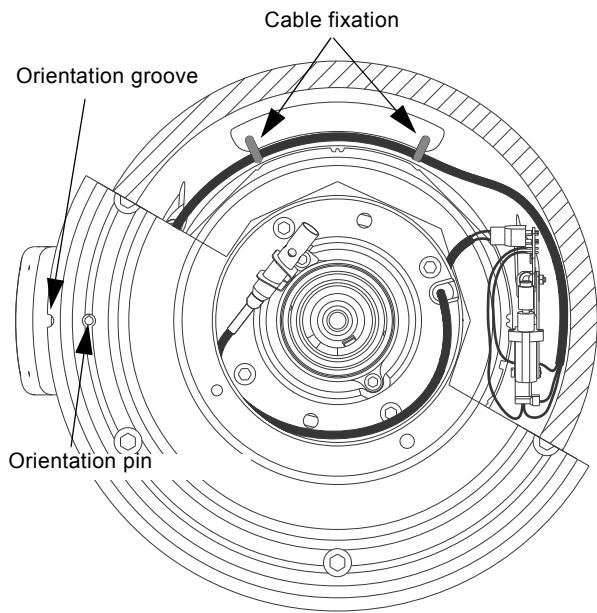
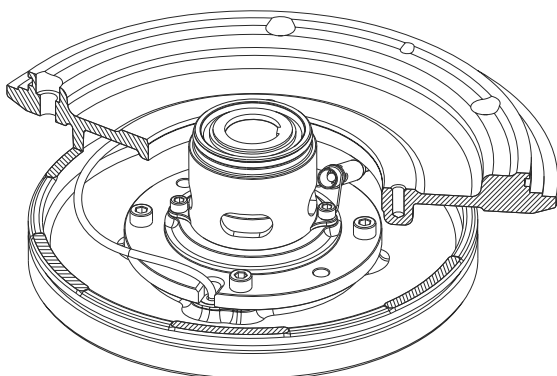

Fig. 16 Orientation markers and fixation of sensor cables
Fig. 17 Position of bearing cover
7. Fix the cables of the sensors to the stator housing (55) with cable clips. See fig. 16.
3. Fix the cable of the moisture switch to the stator housing (55) with cable clips. See fig. 16.
1. Lubricate the O-rings (37a and 37b) with Rocol Sapphire Aqua-Sil and fit the O-ring (37b) on the oil chamber (155) and the O-ring (37a) on the stator housing (55).
2. Fit the corrugated spring (158) in the bottom of stator housing (55).
3. Lubricate the outer ring of the non-drive end bearing (154) with Rocol Sapphire Aqua-Sil.
4. Turn the oil chamber (155) so that the orientation groove in its circumference is next to the orientation pin of the stator housing. See fig. 16.
5. Lower the shaft with rotor (172) together with the oil chamber (155) carefully into the stator housing (55). Take care not to damage the stator windings. At the same time, pull the cable of the water-in-oil sensor through the hole in the oil chamber so that the cable is not pinched.
6. Fit the screws (188) in the oil chamber and cross-tighten them. See section 6. *Tightening torques and lubricants*.
7. Lubricate the O-ring (109) with Rocol Sapphire Aqua-Sil and fit it on the oil chamber (155).
9. Fit the bearing cover (59) in such a way that the groove is placed above the cable entry of the oil chamber (155). See fig. 17.
10. Fit the screws (182) and cross-tighten them. See section 6. *Tightening torques and lubricants*.